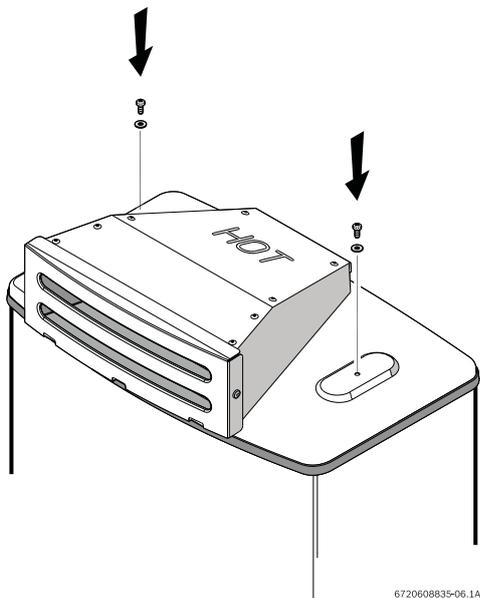

Fig. 7
- ▶ Attach the outdoor vent cap to the appliance by fastening the two provided screws and washers, see Fig. 7.